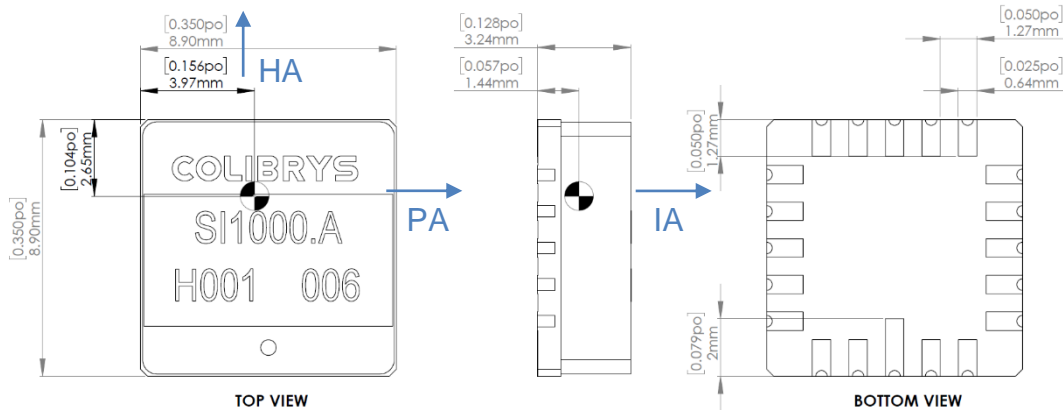

Figure 22: Package mechanical dimension. Units are mm [inch]
The outline of the LCC20 ceramic package and the Center of Gravity (CG) is illustrated in the Figure 22.